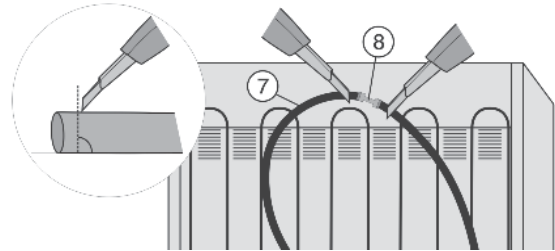

Fig. 36
- Slice open the water hose Fig. 36 (7) located behind the appliance both in front of and behind the connector Fig. 36 (8) (90° to direction of hose).